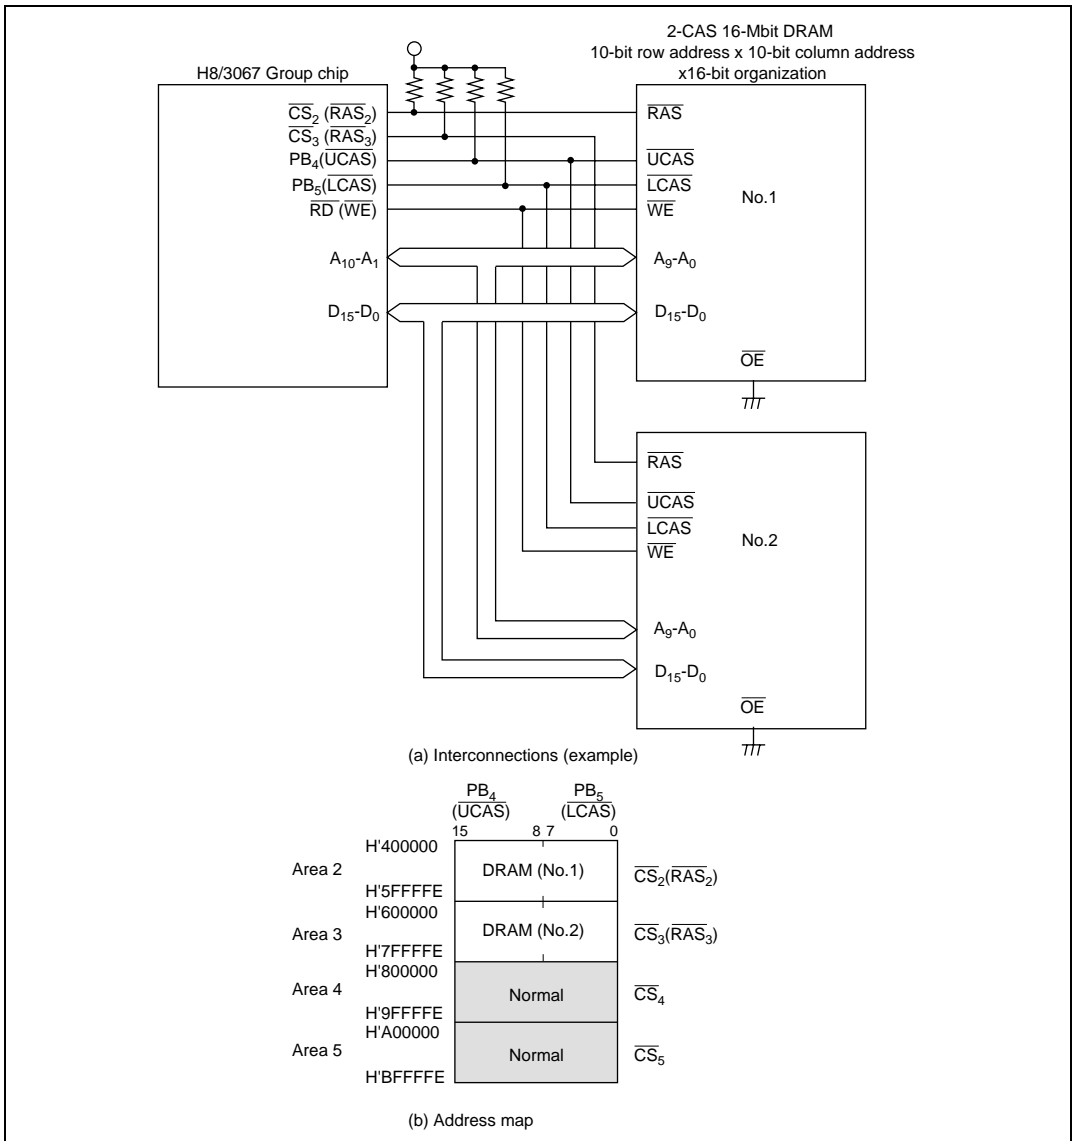

Figure 6.31 Interconnections and Address Map for 2-CAS 16-Mbit DRAMs with \times 16-Bit Organization
- Figure 6.31 shows typical interconnections when using two 2-CAS type 16-Mbit DRAMs using a $\times 16$ -bit organization, and the corresponding address map. The DRAMs used in this example are of the 10-bit row address \times 10-bit column address type. Up to four DRAMs can be connected by designating areas 2 to 5 as DRAM space.